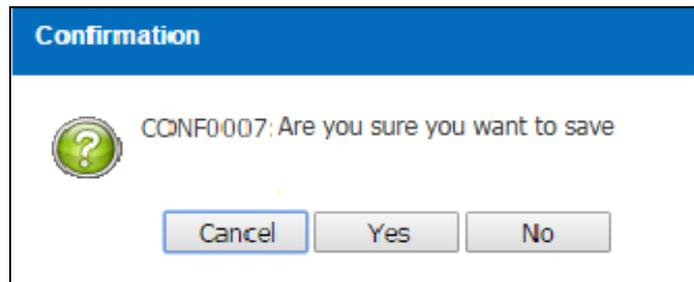

Figure 3.8.1-5 Confirmation Message
- System will display a Confirmation Message as Figure 3.8.1-5